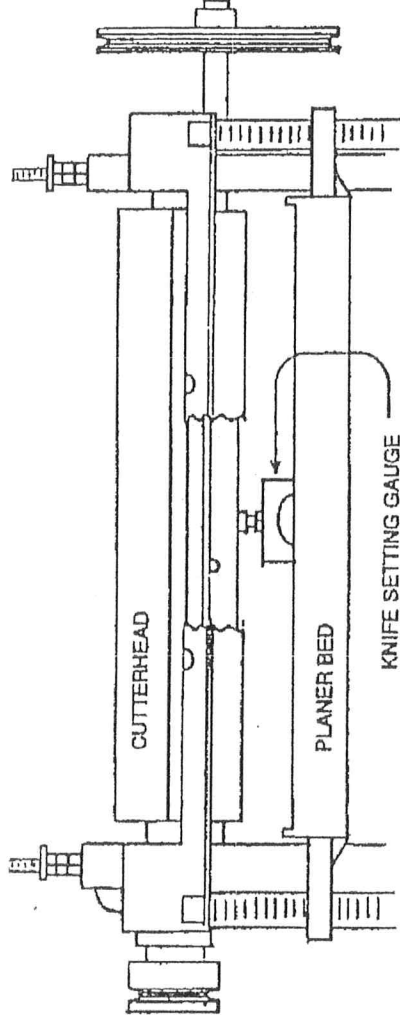

Fig. A-17
4. Set the knife setting gauge on the planer bed and slide it over near the cutterhead (see fig. A-17).